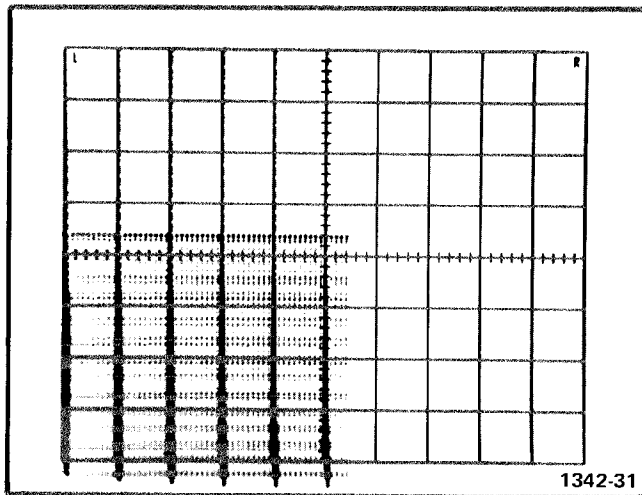

Fig. 4-5. Typical CRT display when checking sweep length.
- b. Rotate the MAIN TRIGGERING LEVEL control for a triggered display. Rotate the POSITION control to position the eleventh 1 ms marker at the center vertical graticule line (see Fig. 4-5).
- c. CHECK—Crt display for sweep length of 10.4 divisions within 0.3 division, as shown by 0.1 to 0.7 division of display to the right of the center vertical graticule line (see Fig. 4-5).